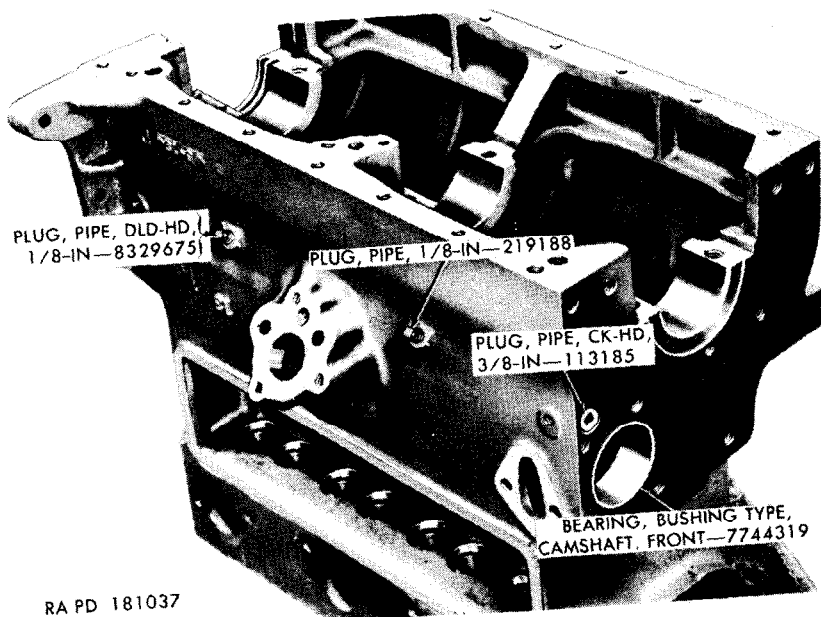
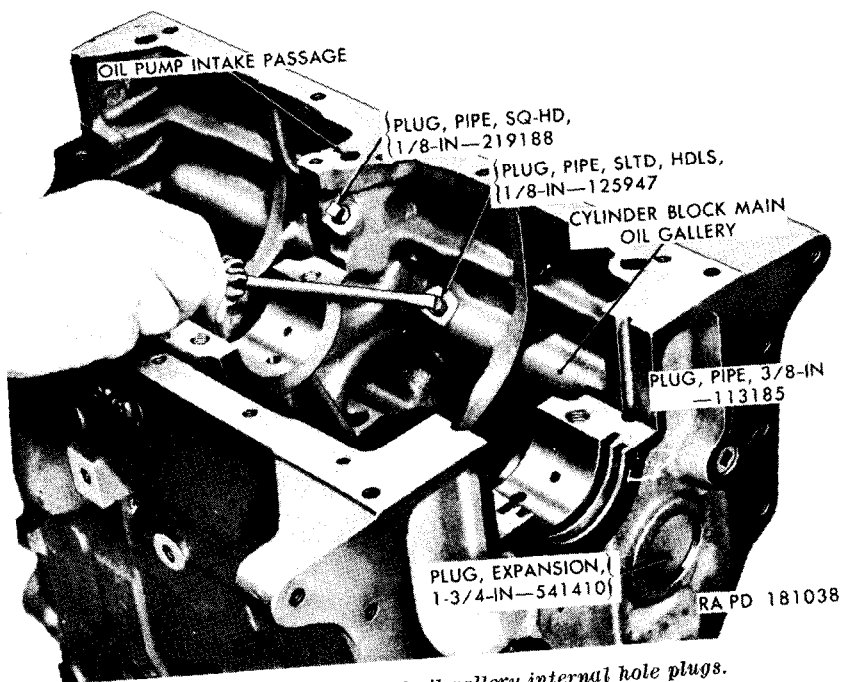
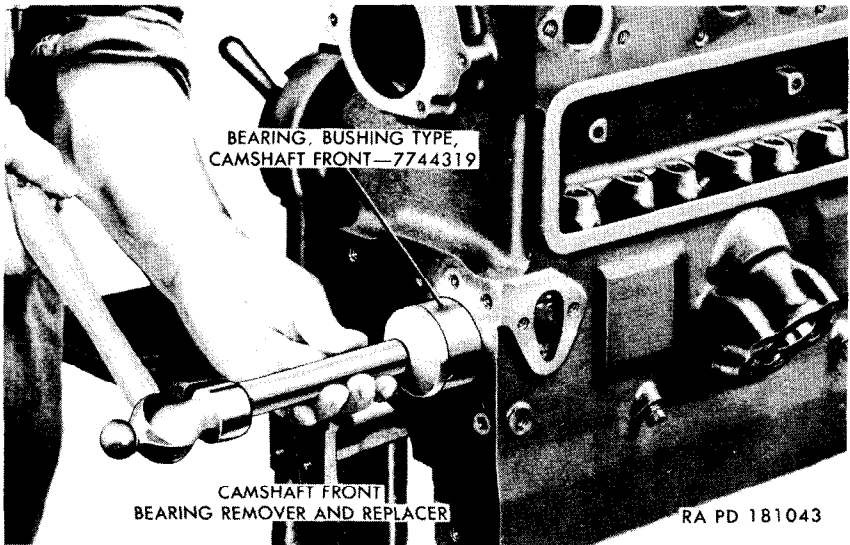

Figure 26. Location of oil gallery external hole plugs.
Figure 27. Location of oil gallery internal hole plugs.
Figure 32. Installing camshaft front bearing.
a. Remove the two pipe plugs (fig. 26) from the left outside surface of the cylinder block. Remove the two countersunk-head pipe plugs (fig. 26), one from each end of the block. Remove the slotted-head-less pipe plug (fig. 27) from the cylinder block main oil gallery, and
the square-head pipe plug (fig. 27) from the tapped opening just below the oil pump intake passage inside the cylinder block.
b. Insert a 24-inch length of 1/2-inch bar stock into the camshaft bore in the cylinder block and drive against the bar to dislodge the expansion plug (fig. 27) from its seat in the rear end of the cylinder block.
c. Check the inside dimension of the front camshaft bushing type bearing (fig. 26). If the dimension does not exceed 2.1880 inch, the bearing need not be removed. If removal of the bearing is necessary, use the improvised camshaft front bearing remover and replacer (fig. 32) and drive the bearing out of the cylinder block.
- (2) Clean the cylinder block main oil gallery (fig. 27) and the smaller oil passages in the cylinder block using round wire brushes slightly larger in diameter than the passages. Force flush the passages using cleaning fluid under pressure.
b. Coat the threads with plastic type gasket cement and install the two ⅜-inch countersunk-head oil gallery pipe plugs (A), one in each end of the cylinder block (fig. 27). Install the two ⅛-inch square-head pipe plugs (L and J) in the openings in the oil passage on the left outside of the engine, making sure the plug with the drilled-head (L) is installed in the hole nearest the rear end of the engine (fig. 26).
c. Install the ⅛-inch slotter-headless pipe plug (K) in the opening in the main oil gallery inside the cylinder block (fig. 27). Install the ⅛-inch square-head pipe plug (J) in the opening in the oil passage directly below the oil pump intake passage.
d. If necessary, replace the camshaft front bushing type bearing (par. 50c), using the improvised camshaft front bearing remover and replacer (fig. 32). Slide the bearing onto the arbor of the remover and replacer, notched end first. Align the oil hole in the bearing with the oil hole in the bore in the cylinder block and drive the bearing into the bore until the front end of the bearing is flush with the front surface of the cylinder block.